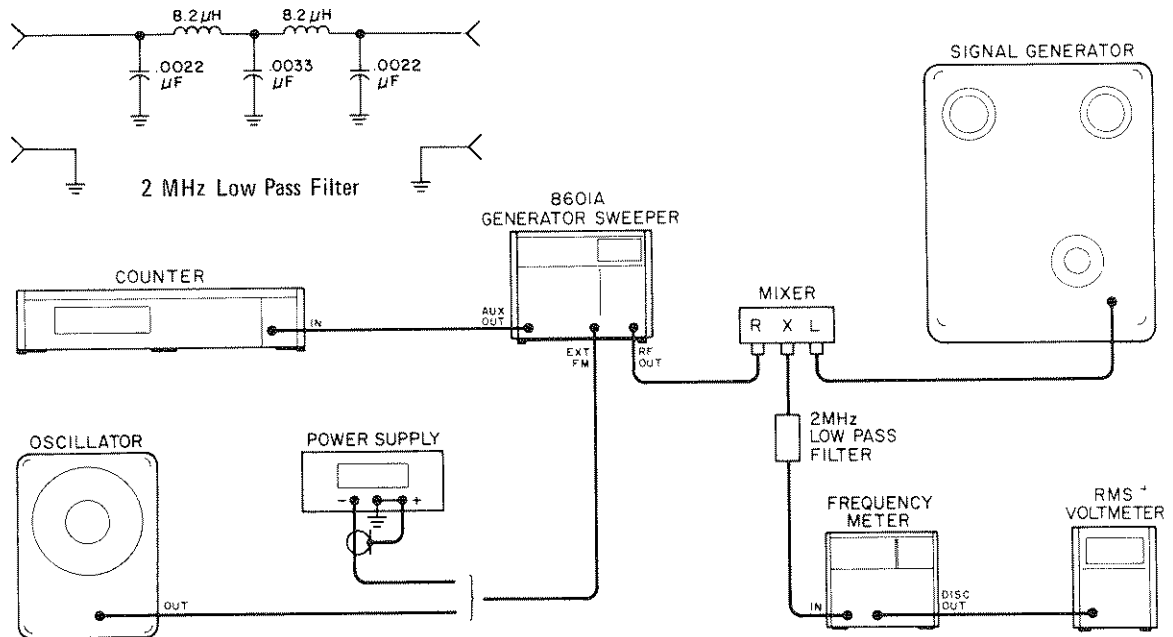

Figure 4-5. External FM Test Setup
1. Connect dc power supply to 8601A as shown in Figure 4-5. Connect counter to RF OUT.
10. Connect equipment as shown in Figure 4-5. Set 8601A RANGE to 110, FREQUENCY to 60 MHz and adjust Signal Generator for 61.0 MHz at a level of about -10 dBm.
1. Setup equipment as shown in Figure 4-5. Audio Oscillator, DC Power Supply and Counter/Marker Generator are not needed.